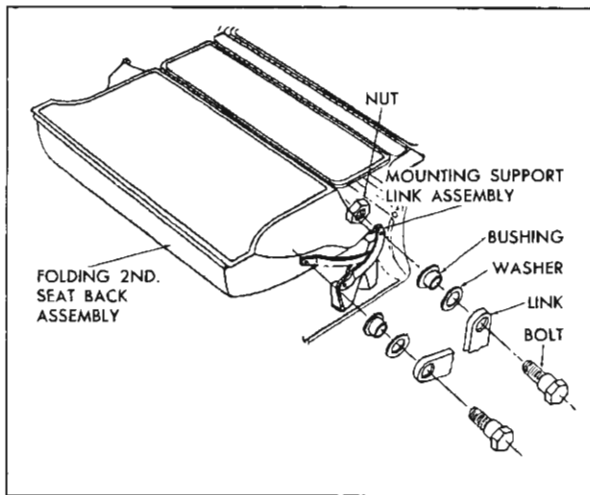

Fig. 8-6 Second Seat Mounting Support Link
4. Remove bolts securing right and left mounting support link assemblies to seat back assembly (Fig. 8-6), and remove folding 2nd seat back assembly with attached filler panel from body.
NOTE: When necessary to remove filler panel from seat back assembly, as a bench operation, fold filler panel as shown in Fig. 8-6 and remove screws which secure filler panel to seat back panel assembly.
6. Remove bolts securing support link to folding 2nd seat back assembly and remove support link from body (Fig. 8-6).